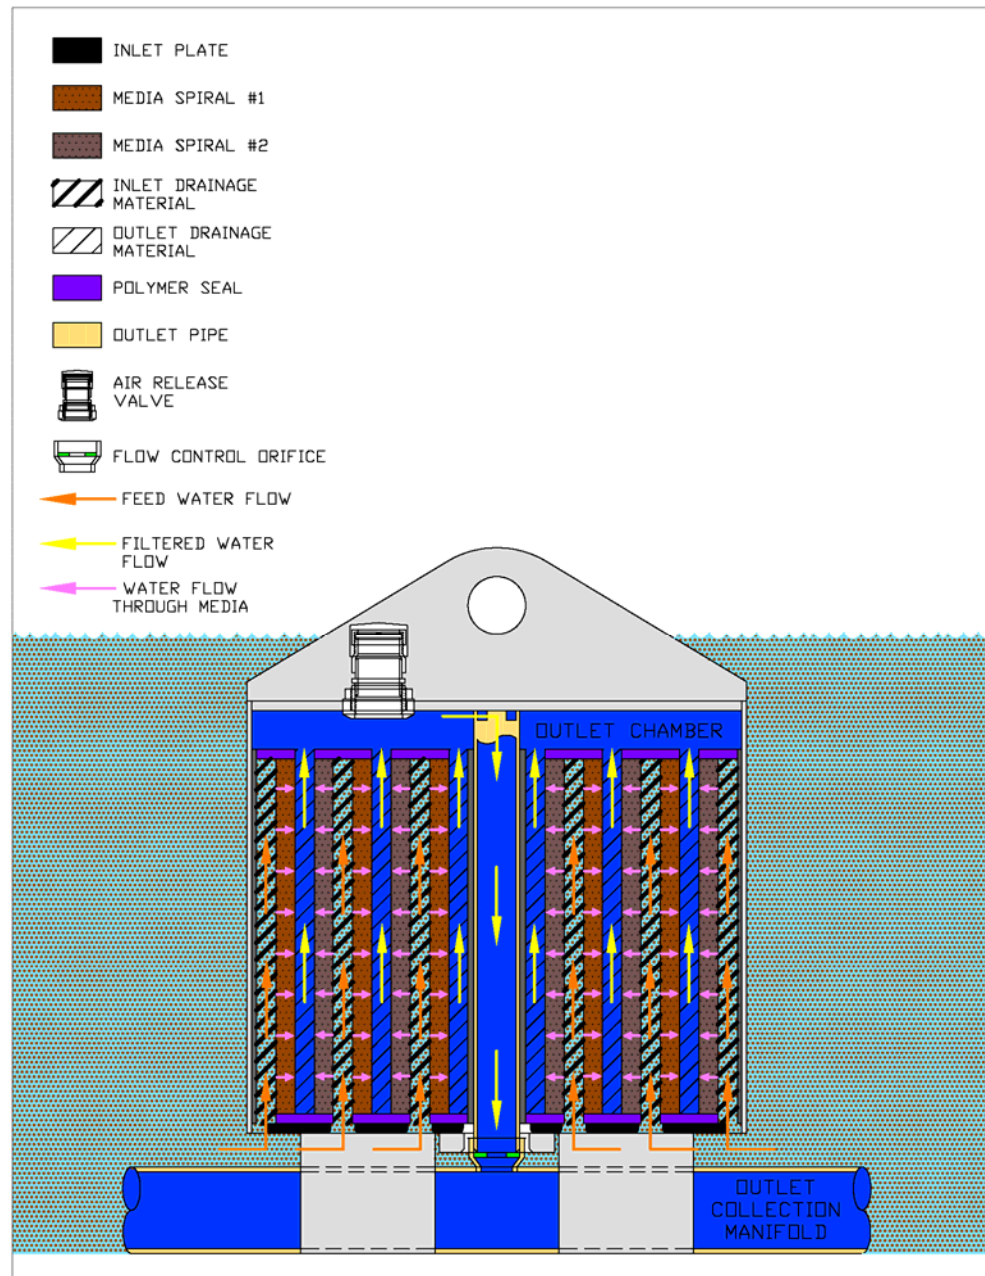

Figure A-2: Normal filter operation
- B. Filtration:** As water enters the continuous inlet drainage spiral, air is exhausted. Water then flows horizontally through the engineered media. Next it flows to the outlet drainage spiral which is also one continuous piece material. Filtered water then flows vertically to the outlet chamber located at the top of the filter media inside of the cartridge. Finally, filtered water flows in to the center outlet drain and leaves the system via the outlet manifold below the inlet plate. (Figure A-2)